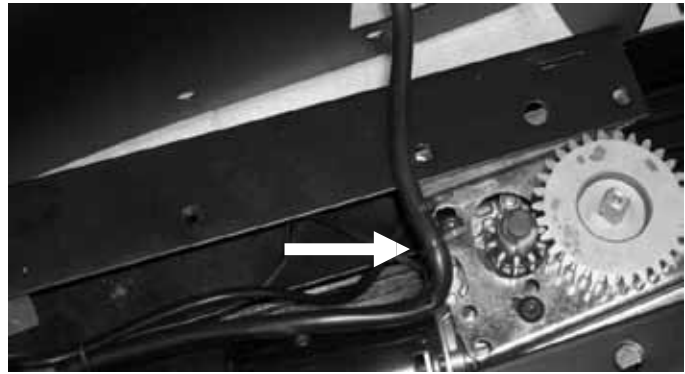

Fig. 5
9. Tighten the new control panel to the gear using 2 binding strips (Fig. 5)